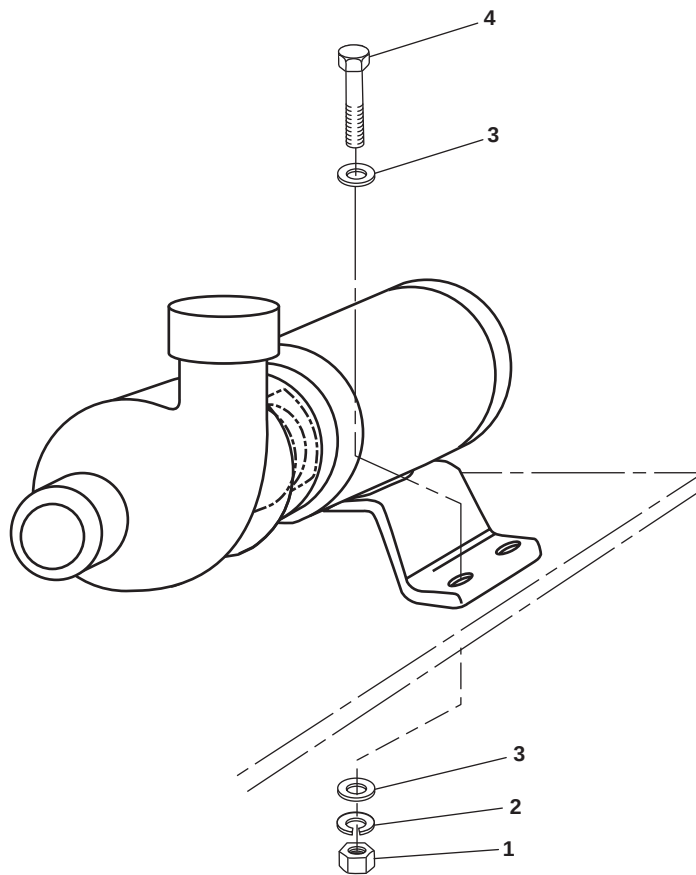

Figure 1. Potable Water Pump Hardware Replacement
1. If questionable mounting hardware is observed, remove the four nuts (figure 1, item 1), four lockwashers (figure 1, item 2), eight flat washers (figure 1, item 3), and four bolts (figure 1, item 4). Discard the lockwashers.
2. Install the four bolts (figure 1, item 4), eight flat washers (figure 1, item 3), four new lockwashers (figure 1, item 2), and four nuts (figure 1, item 1).